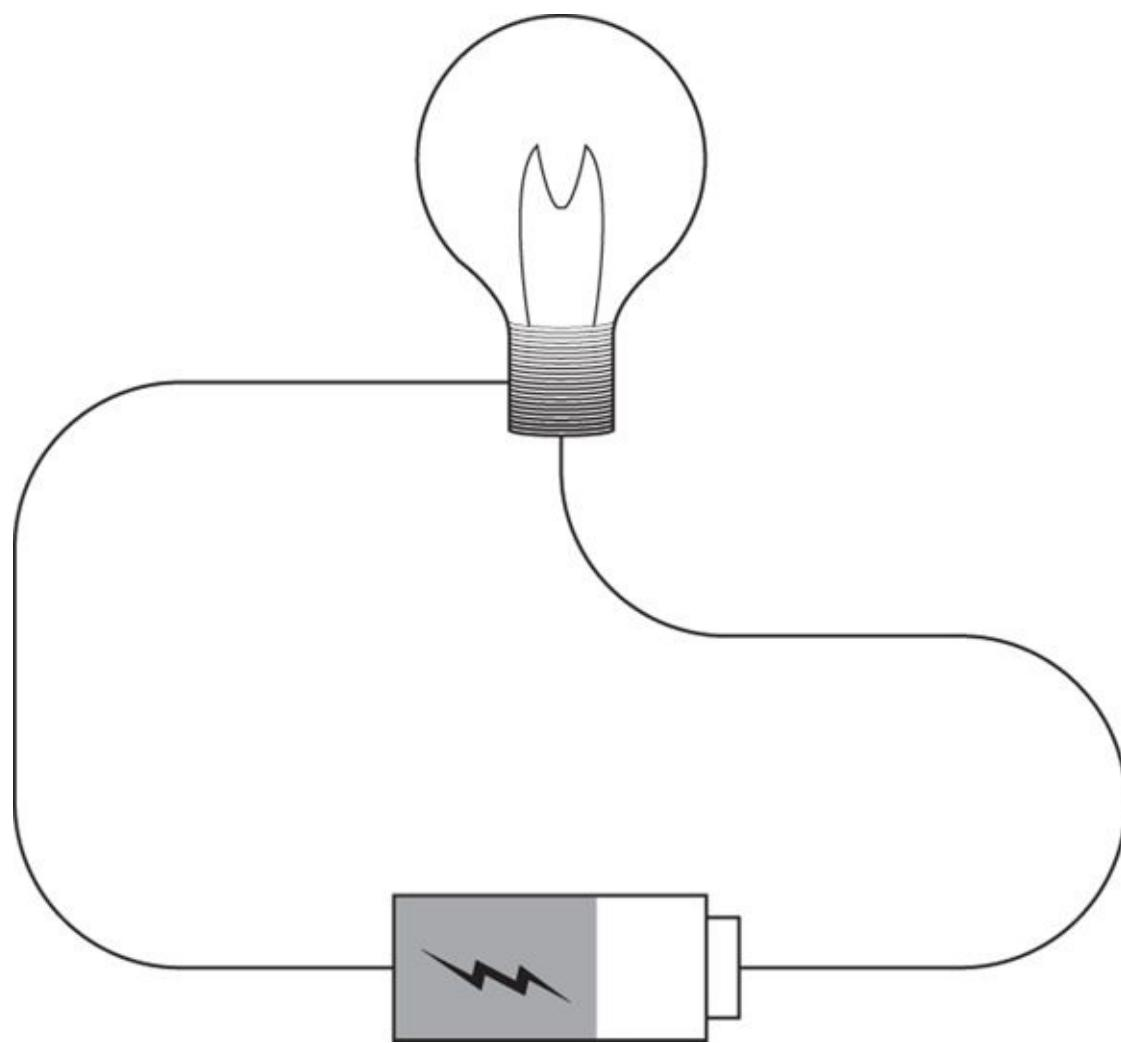

FIGURE 1-2: A simple electrical circuit consisting of a battery, a lamp, and some wire.
- An *electric circuit* is a closed loop made of conductors and other electrical elements through which electric current can flow. For example, Figure 1-2 shows a very simple electrical circuit that consists of three elements: a battery, a lamp, and an electrical wire that connects the two.
The circuit shown in Figure 1-2 is, as I already said, very simple. Circuits can get much more complex, consisting of dozens, hundreds, or even thousands or millions of separate components, all connected with conductors in precisely orchestrated ways so that each component can do its bit to contribute to the overall purpose of the circuit. But all circuits must obey the basic principle of a closed loop.